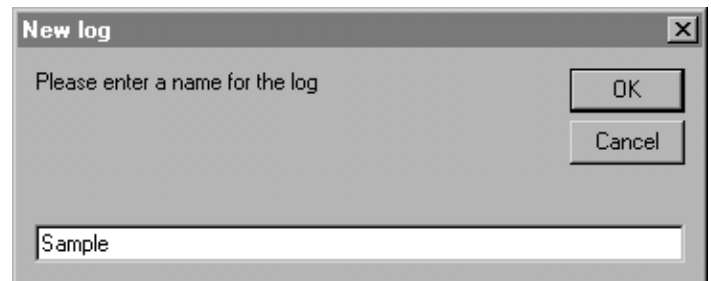

Figure 17: Log name dialog box
5. Enter a log *file name* ("sample" in this case) in the dialog box shown in *Figure 17* below. Click on the [ok] option button.